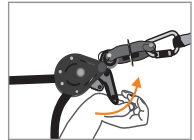

Fig 5
To uninstall the lifeline, pull on the cam lever (4) (Fig. 5). Unhook everything and repack it in its original bag.